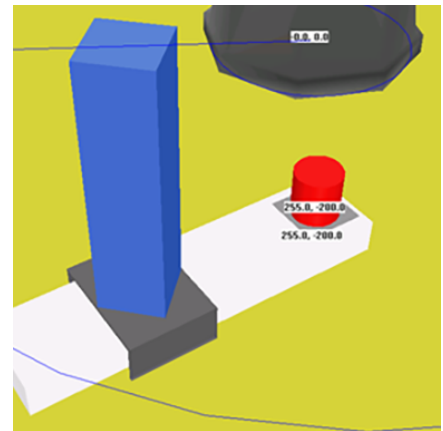

Figure 3. Cylinder
- Once the Cylinder is in place, double-click it and change the position to 255, -200 (Figure 3).